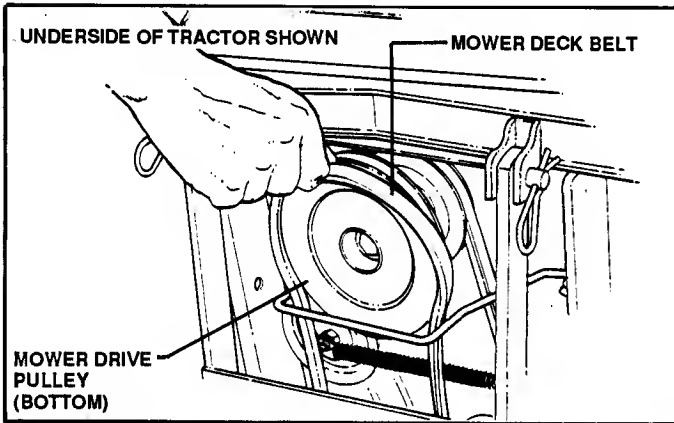

FIGURE 31
5. Remove MOWER DECK BELT from bottom pulley of engine. See Figure 31.